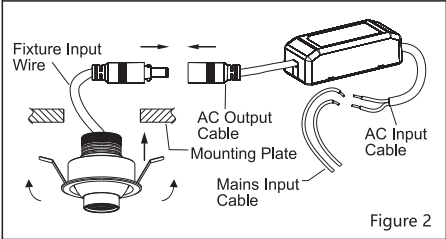

Figure 2
- 2. Connect the mains input lines (live/brown wire to L, neutral/blue wire to N) to the input terminals of the driver.Connect the fixture output lines to the driver's output terminals, ensuring secure connections with insulated tape.For threaded installation: Secure the fixture to the mounting plate first, then proceed with wiring to prevent loosening.(Figure2/3)